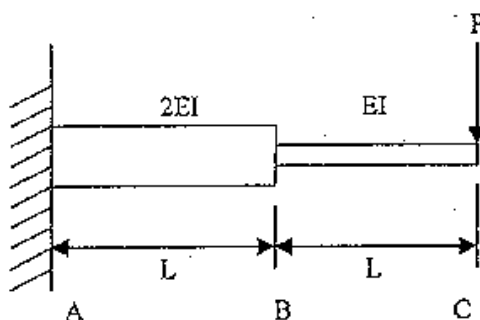

Fig. 4
- (b) The flexural rigidity is $2EI$ in portion AB of the beam and EI in portion BC as shown in Fig. 4. Determine the deflection at the free end. (10%)